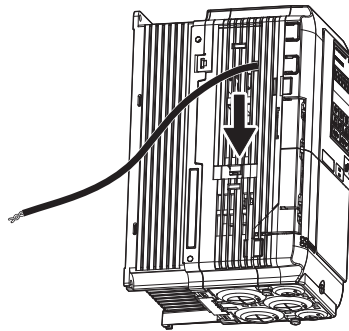

Figure 4.24 Reattaching the Connector Cover (2)
4. Slide the connector cover back into place as shown in Figure 4.24.